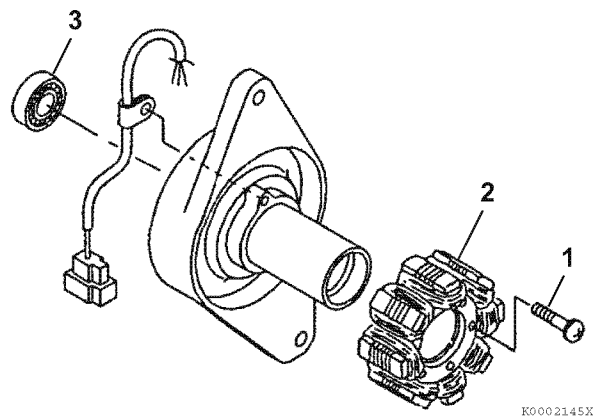

Figure 11-27
1. Reinstall the rear bearing (Figure 11-27, (3)).
2. Reinstall the stator (Figure 11-27, (2)) and screws.